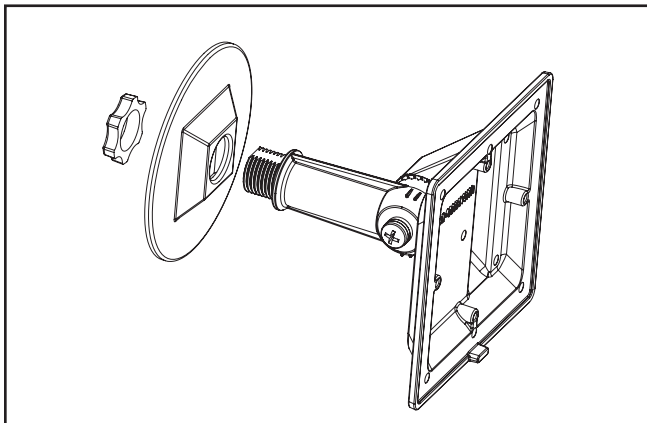

Figure 1.
1. Loosen the knuckle pivot screw. Adjust the position of the knuckle stem. Re-tighten. (Figure 1.)
2. Route electrical leads through the 1/2" NPS cover plate (supplied by others). Seal knuckle threads with sealing compound (provided by others). Secure cover plate to knuckle with lock nut (50-60 in-lbs). Make wire connection in outdoor rated junction box. Mount cover plate to junction box. (Figure 1.)